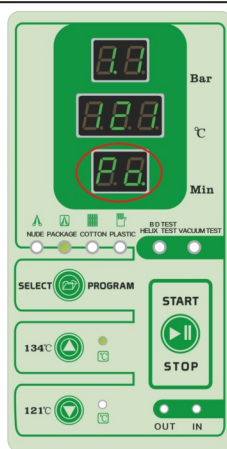

Fig. 7.4-4
(4)**First times Exhaust stage:**when the pressure up to about 1.1bar,the control system will open the exhaust-solenoid valve(Ev1) and drain water-solenoid valve(Ev5) for exhausting till pressure down to P=0.0bar.the time display window show “Po” .(Fig.7.4-4)
(7) **Second times Exhaust stage:**when the pressure up to about 1.1bar,the control system will open the exhaust-solenoid valve(Ev1) and drain water-solenoid valve(Ev5) for exhausting till pressure down to P=0.0bar.the time display window show “Po” . (Fig.7.4-4)